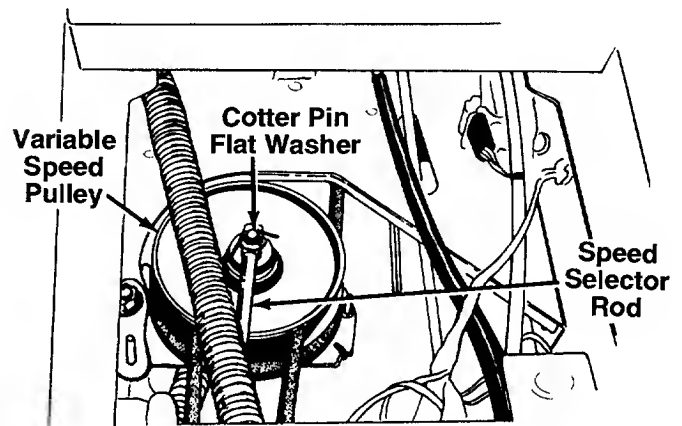

FIGURE 15.
8. Disconnect the speed selector rod from the variable speed pulley by removing the cotter pin and flat washer and lifting rod off the 3/8" pin. See figure 15.